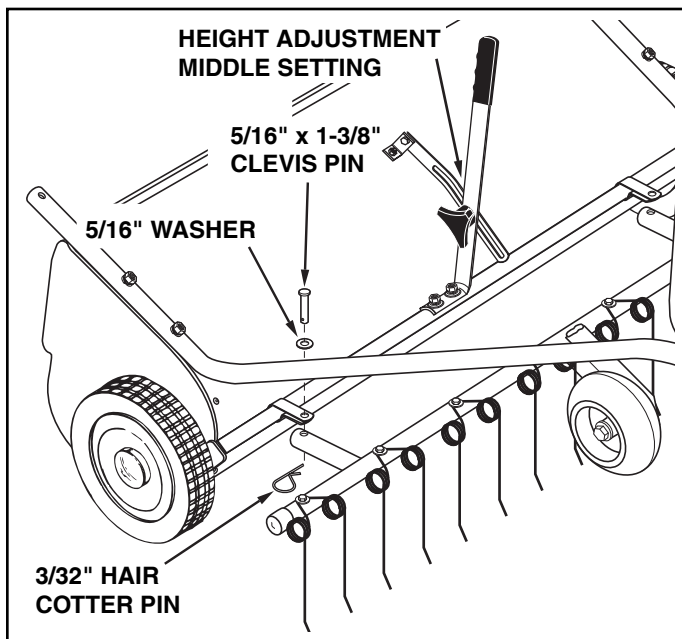

FIGURE 4
- Connect the dethatcher to the conduit clamp using two 5/16" x 1-3/8" clevis pins, 5/16" washers and 3/32" hair cotter pins. See figure 4.